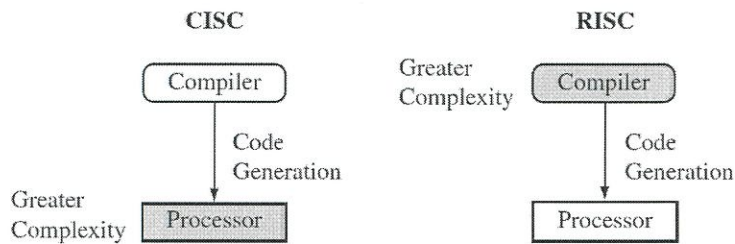

Figure Q1(a)
- (a) By referring to **Figure Q1(a)**, with a suitable example, discuss what is meant by “greater complexity at the processor level in CISC” and “greater complexity at compiler in RISC”. (5 marks)